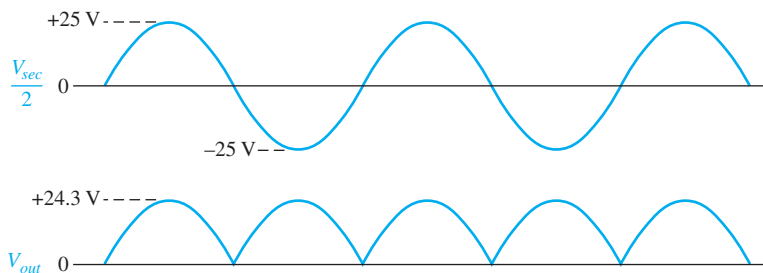

FIGURE 2-22
- (a) The waveforms are shown in Figure 2-22.